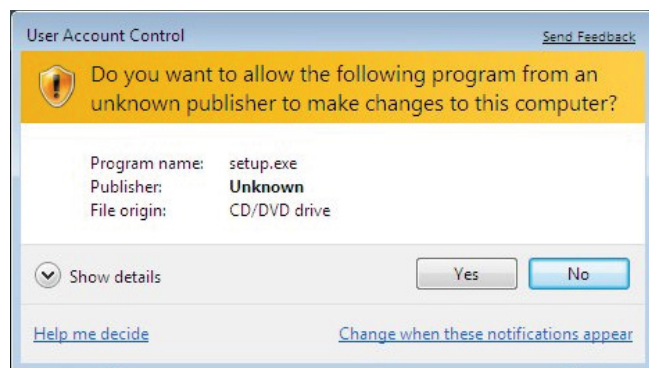

Figure 3. User Account Control Permission Dialog Box
3. A dialog box appears asking for permission to allow the program to make changes to the PC. Click **Yes** to proceed (see Figure 3).